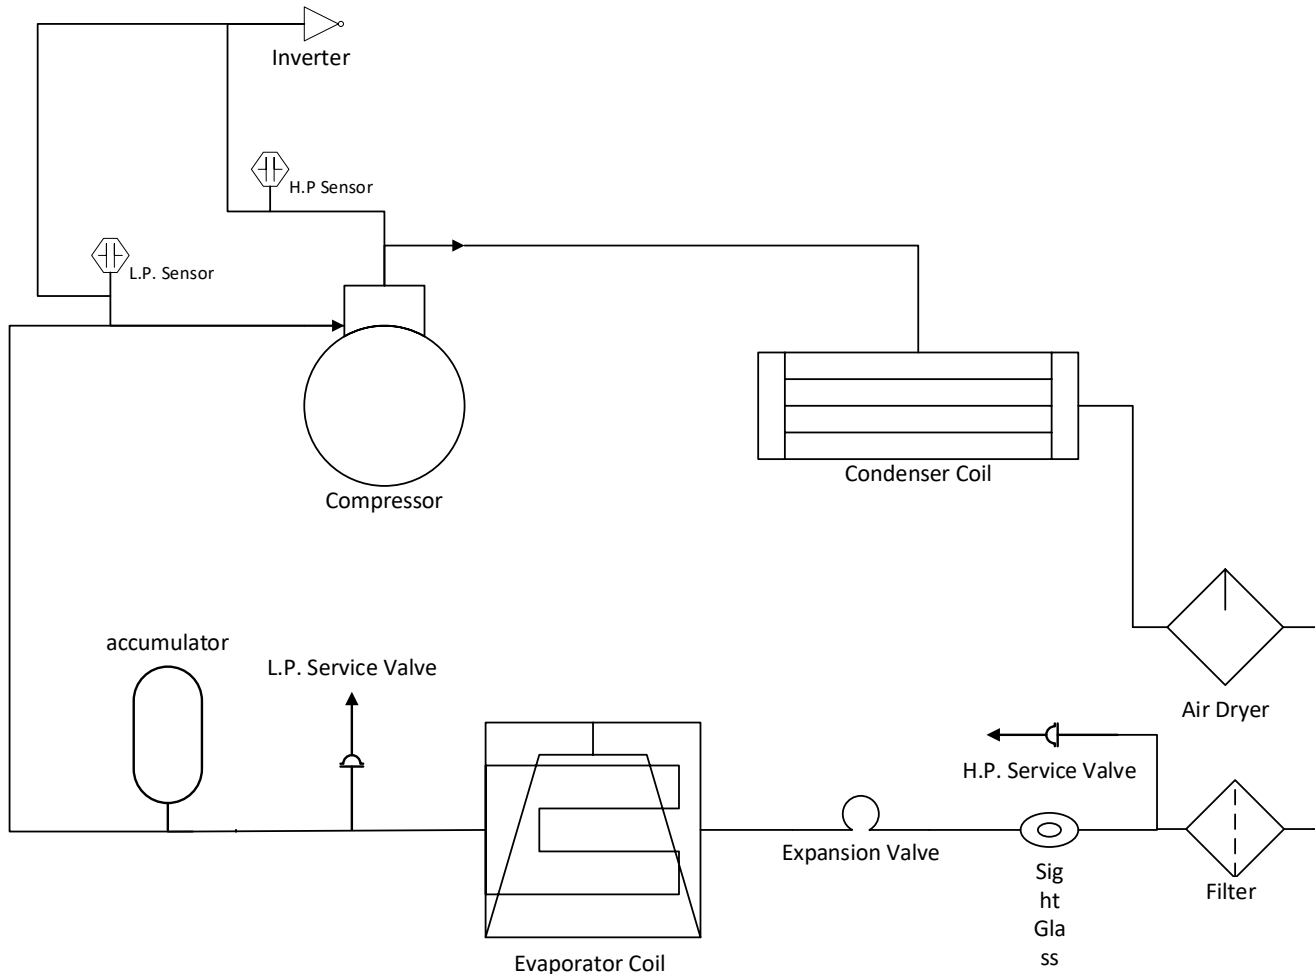

Figure 2. Cooling Schematics of WPS-0005000
**NOTE:** A schematic illustrating the high- and low-pressure circuits and heat exchange cycle is provided in Figure 2.